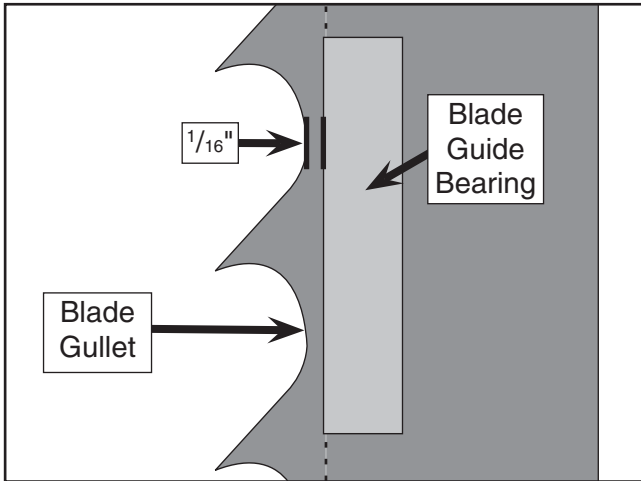

Figure 23. Lateral adjustment of blade guides.
5. Rotate the lower knurled knob to position the blade guides, so the edges of the bearings are $\frac{1}{16}$ " behind the blade gullets as illustrated in **Figure 23**. Note—The $\frac{1}{16}$ " spacing is ideal, although with larger blades it may not be possible. In such cases, adjust the guide bearings as far forward as possible to the blade gullets, and still maintain the proper support bearing spacing adjustment.